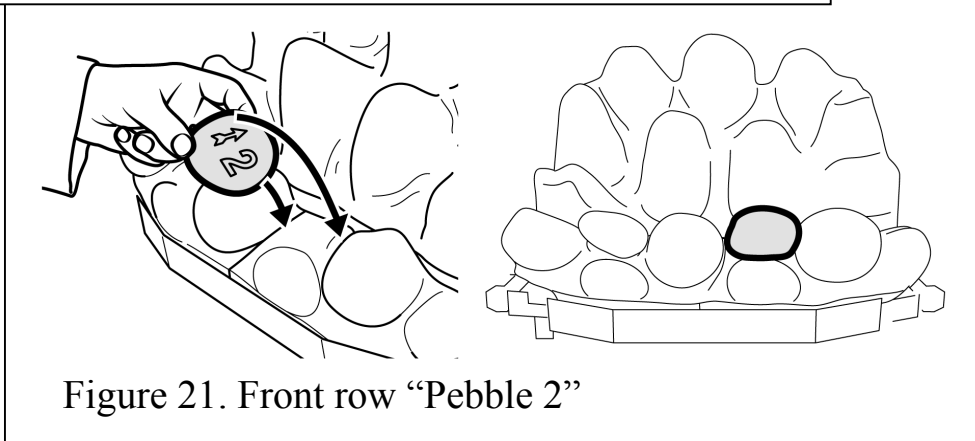

Figure 21. Front row "Pebble 2"
8. Hold Pebble '2' upright with the arrow pointing to the top. Locate Pebble '2' as shown in figure 21. It should lie on top of the right hand front pebbles